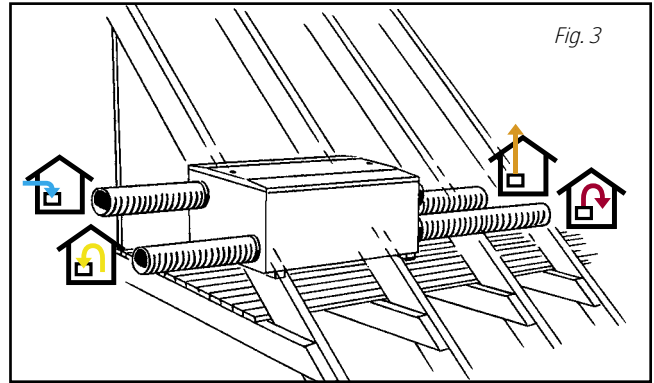

Fig. 3
- Outdoor air and extract air ducts on one side and supply air and exhaust air ducts on the other side (Fig. 3)